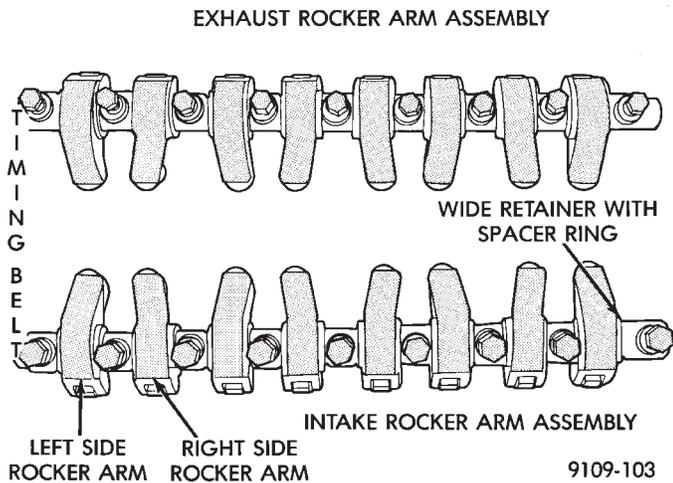
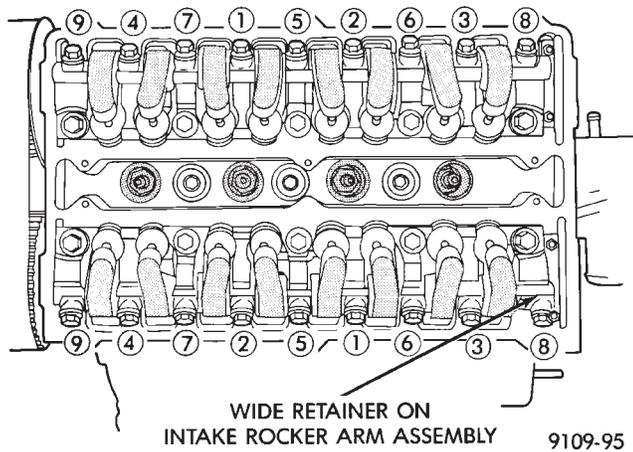

Fig. 9 Intake and Exhaust Rocker Arm Assemblies
Fig. 10 Rocker Arm Shaft-Installation
- (1) Install rocker arm on the shaft in there original position (Fig. 9).
- (2) Install hydraulic lash adjusters making sure that adjusters are at least partially full of oil. This is indicated by little or no plunger travel when the lash adjuster is depressed.
- (3) Install rocker arm shaft assembly tighten in sequence shown in (Fig. 10).
- (4) Install valve cover as previously outlined.